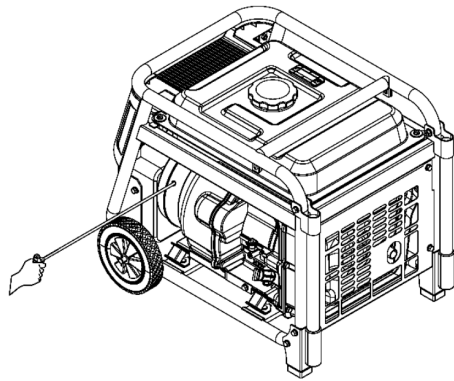

Figure 9 Pulling the starter handle.
4.3 Gently pull the starter handle until feel force, then pull rapidly in the direction of the arrow shown below. See figure 9.